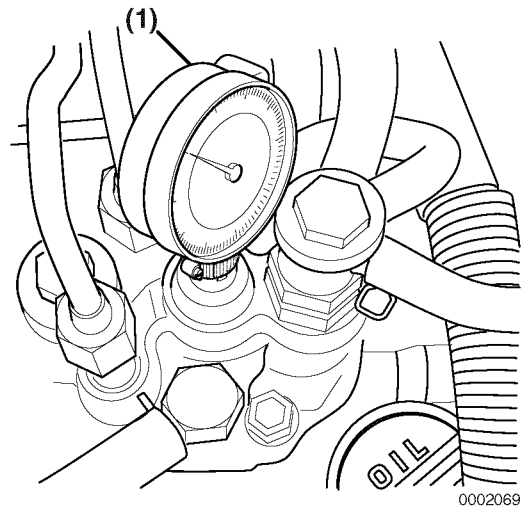

Figure 7-49
3. Note the reading on the dial indicator (**Figure 7-49, (1)**). If the reading is less than 2.5 mm (0.098 in.), the fuel injection timing is “retarded.” If the dial indicator reading is greater than 2.5 mm (0.098 in.), the fuel injection timing is “advanced.”